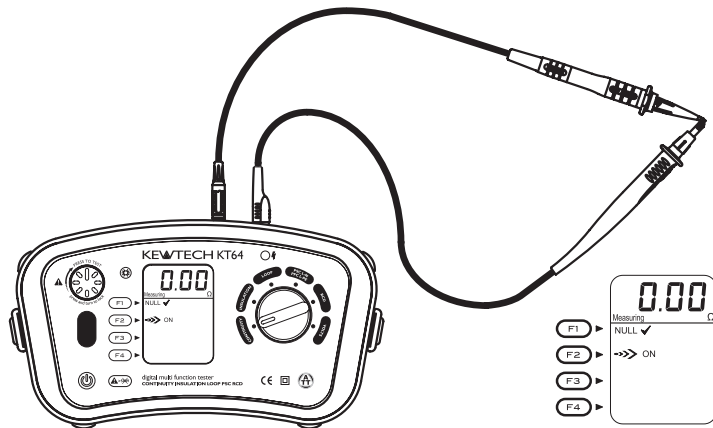

Fig. 10
- 3 Connect the ends of the test leads firmly together (see Fig.10) and press and lock down the test button. The value of the lead resistance will be displayed.
- 5 Release the test button. Press the test button and ensure the display reads zero before proceeding. While using the Continuity null function, “NULL ✓” is displayed on the LCD as indicated in Fig.10. The null value will be stored even if the instrument is powered off. This memorized null value can be cancelled by disconnecting the test leads and pushing the Continuity Null button (F1) with the test button pressed or locked. When this is cancelled you will know because NULL OFF is displayed on the LCD.